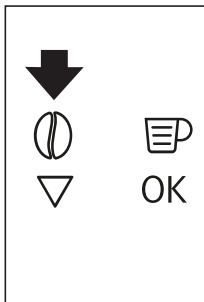

Fig. 15
- After using the machine with pre-ground coffee, to go back to making coffee using beans, deactivate the pre-ground coffee function by pressing the  icon (B4) (Fig. 15).